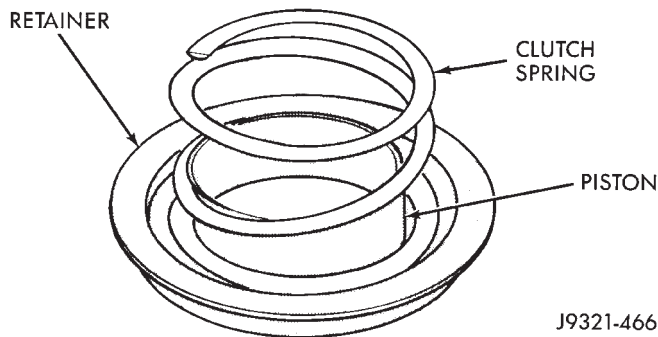

Fig. 137 Clutch Piston Spring Installation
- (5) Position spring in clutch piston (Fig. 137).